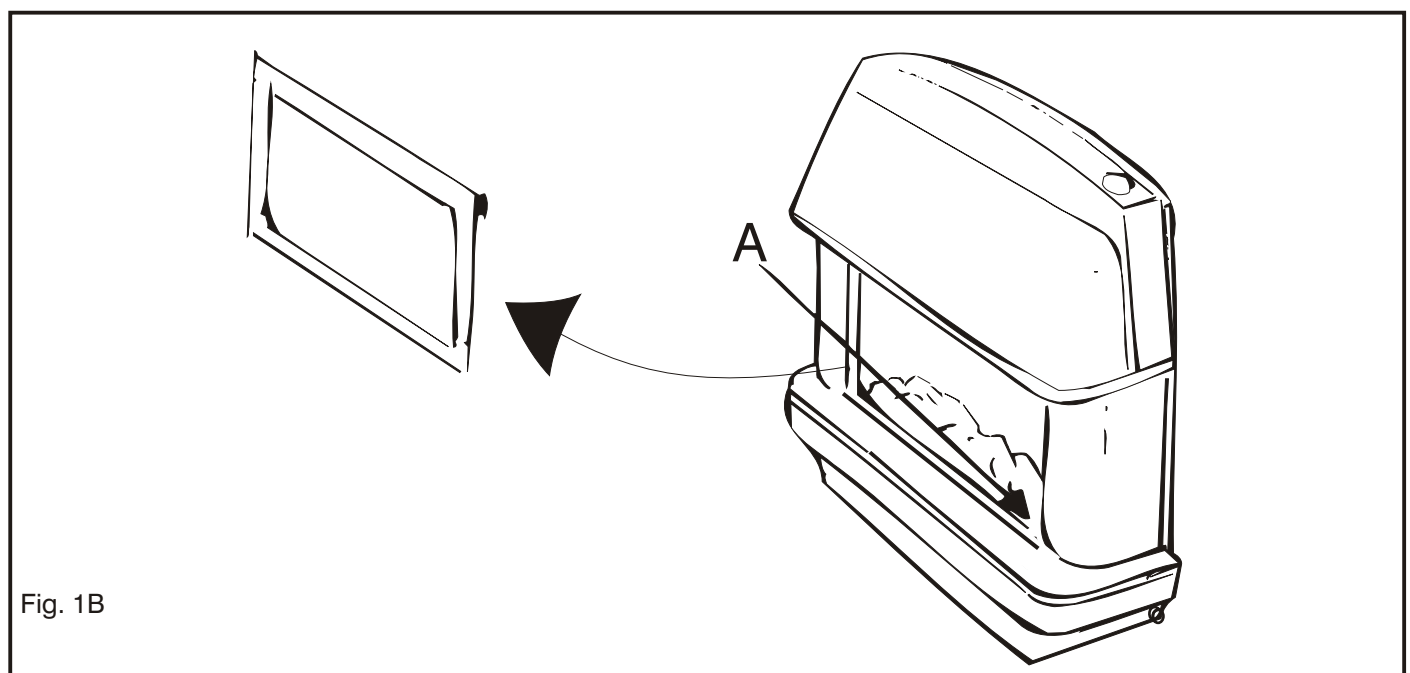

Fig. 1B
**TO LIGHT THE FIRE:** Turn the control knob anticlockwise to the (pilot)  position. Depress the control knob, sparks will be heard and the pilot should light, this can be confirmed by looking through the glass to the right hand side of the fuel bed in the direction of arrow 'A' (See Fig 1B). If the pilot is lit, hold down the control knob for a further 10 seconds before releasing. The pilot should remain alight. If the pilot does not remain alight, or has not ignited, push in the control knob slightly, turn back to OFF and repeat the above procedure.
Pull the door mask upwards and forwards (see fig 1B). The glass door is retained by ten wing nuts and after removing these you may slide the glass door forwards and away from the fire. The inside of the window should be cleaned with a 'ceramic hob' cleaner, such as Hobbrite, before refitting